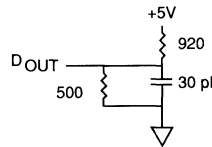

Fig. 1 OUTPUT LOAD EQUIVALENT
Output load .....	See figures 1 and 2
5. Test conditions as specified with the output loading as shown in Fig. 1 unless otherwise noted.